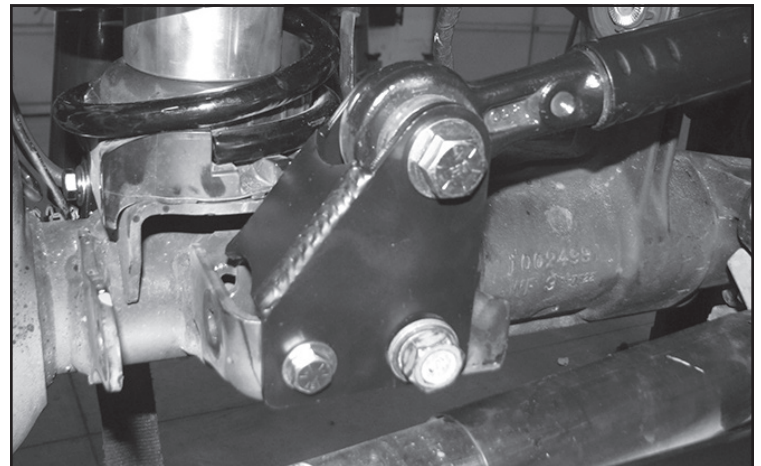

FIGURE 19 - STEP 19
19. Re-install the track bar using the supplied 9/16" X 3" bolt, nut and washers. Torque to 153 ft-lbs. **SEE FIGURE 19**